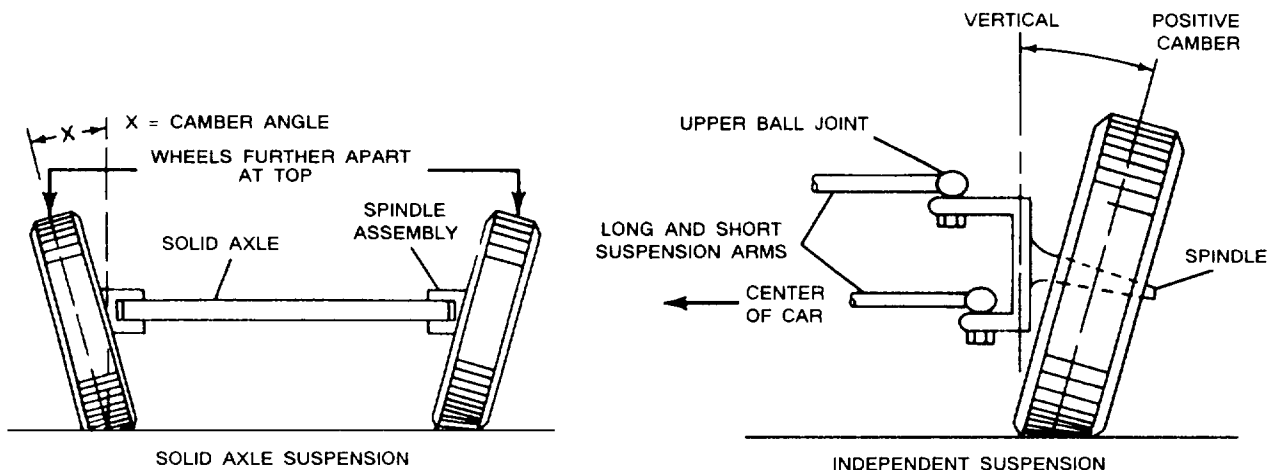

Figure 12-1.—Camber angle.
1. CAMBER ANGLE. As viewed from the front of the vehicle, the camber angle is the degree to which the wheel tilts inward or outward (fig. 12-1). It is measured in degrees and changes with the load of the vehicle and suspension movement. Positive camber is the outward tilt of the top of the wheel, and negative camber is the inward tilt. It is shown by a line drawn
3. Grasp the idler arm and try to work it up and down; then try to spread the tires apart while watching the steering linkage, (fig. 12-1 2). In either case, you should not see excessive movement. Inspect the tie rod ends for uncontrolled movement.